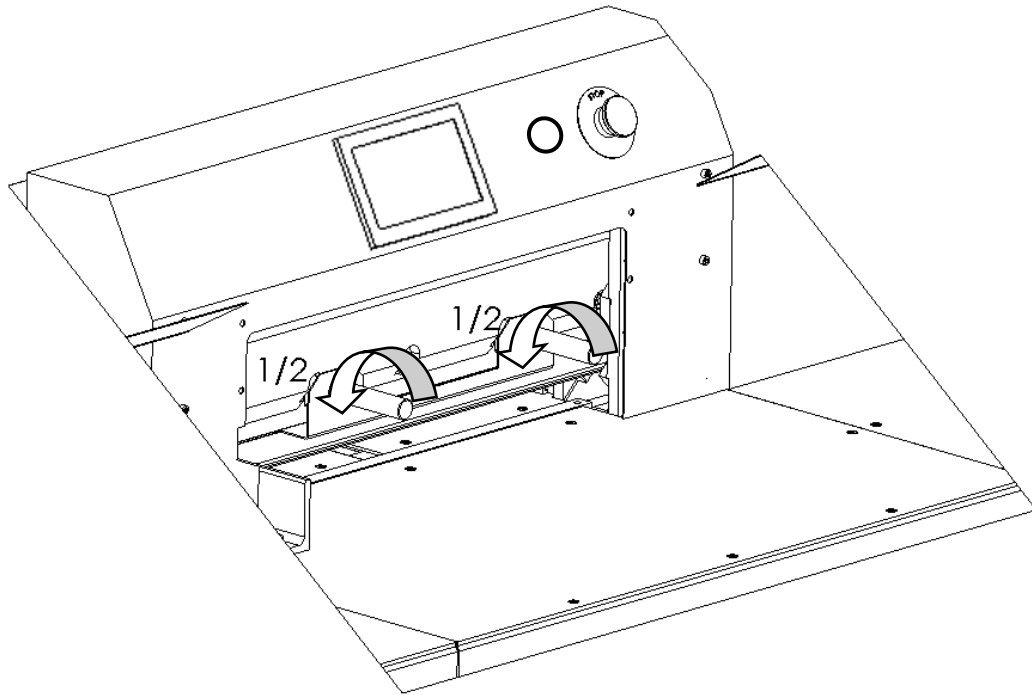
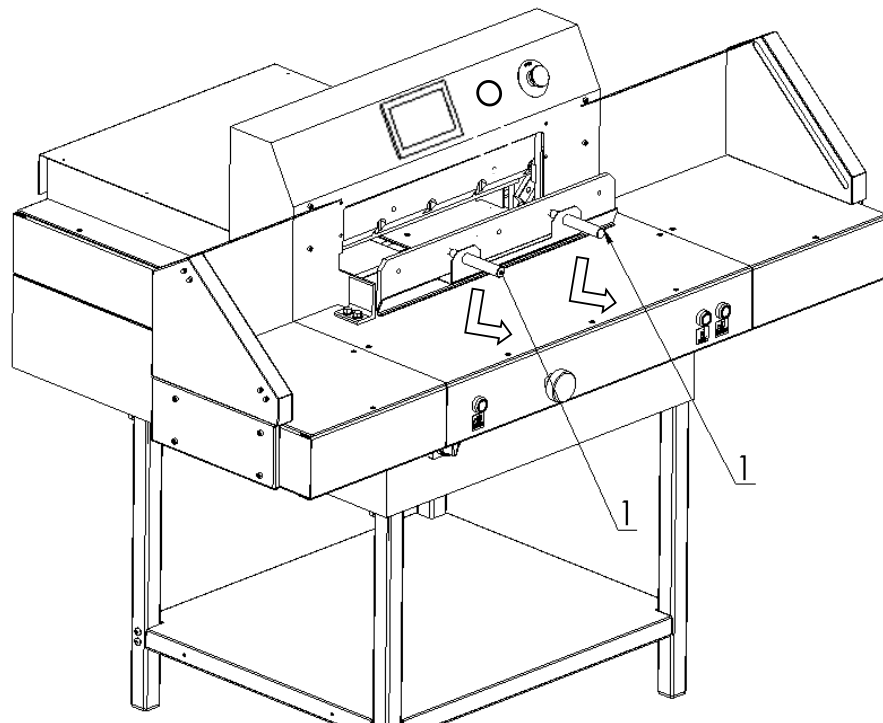

Figure 26.
Figure 27.
8.1.1.12 holding the transport handles release the clamp by turning them 1/2 turn at a time to the left (fig 26) and carefully pull the knife down (fig 27).